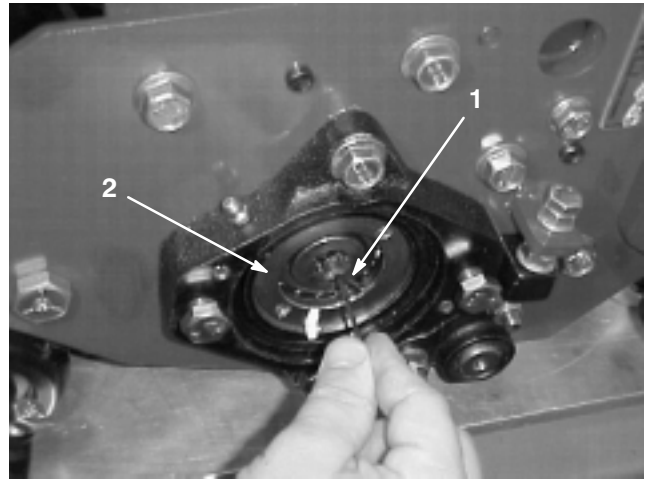

Figure 18
- A. Loosen set screw securing bearing adjusting nut to bearing housing located on the left side of the cutting unit (Fig. 18).